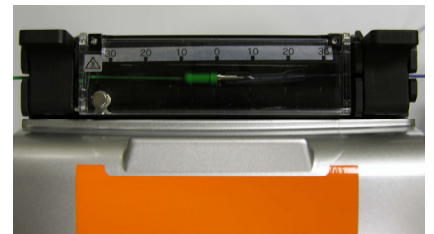

Figure 29
10. Place assembly into heater. Heater should be set to either 60mm or FPS-1 heater condition. (Fig. 29)